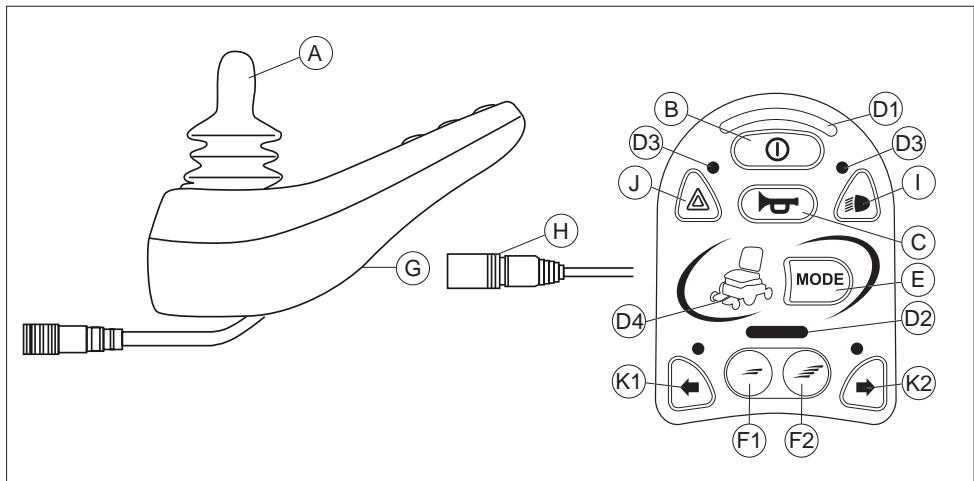

Figure 2
To be able to drive or operate the electronic adjustment options of the wheelchair, the controller must be switched on. Press the on/off button (B in figure 2).
The maximum speed can be controlled by the speed regulator on the controller (F in figure 2). The speed bar will display the maximum speed (D2 in figure 2). Speed can be controlled with the joystick while driving. If the joystick is moved a little, the wheelchair will move more slowly.
2. Press on the 'mode' button to select the 'adjustment options' mode (E in figure 2). The controller will now be in the 'adjustment options' mode. It is also possible to follow the status.